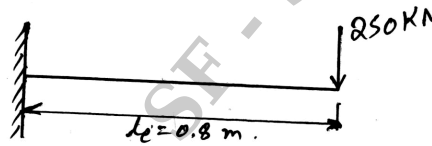

Fig Q5(b)
b. A cantilever beam subjected to point load of 250kN as shown in Fig Q5(b). Determine deflection at tip and support reactions, Take, $E = 200\text{GPa}$, $I = 4 \times 10^6\text{mm}^4$ and $l_e = 0.8\text{m}$.